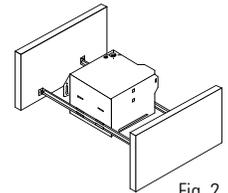

Fig. 2
- If mounting the housing between joists install the side rails (fig. 2) on the housing. Position the housing next to the joist and adjust the height so it is flush with the drywall. Secure the ends of the slide rails to the joists – you can then move the housing into the final position.